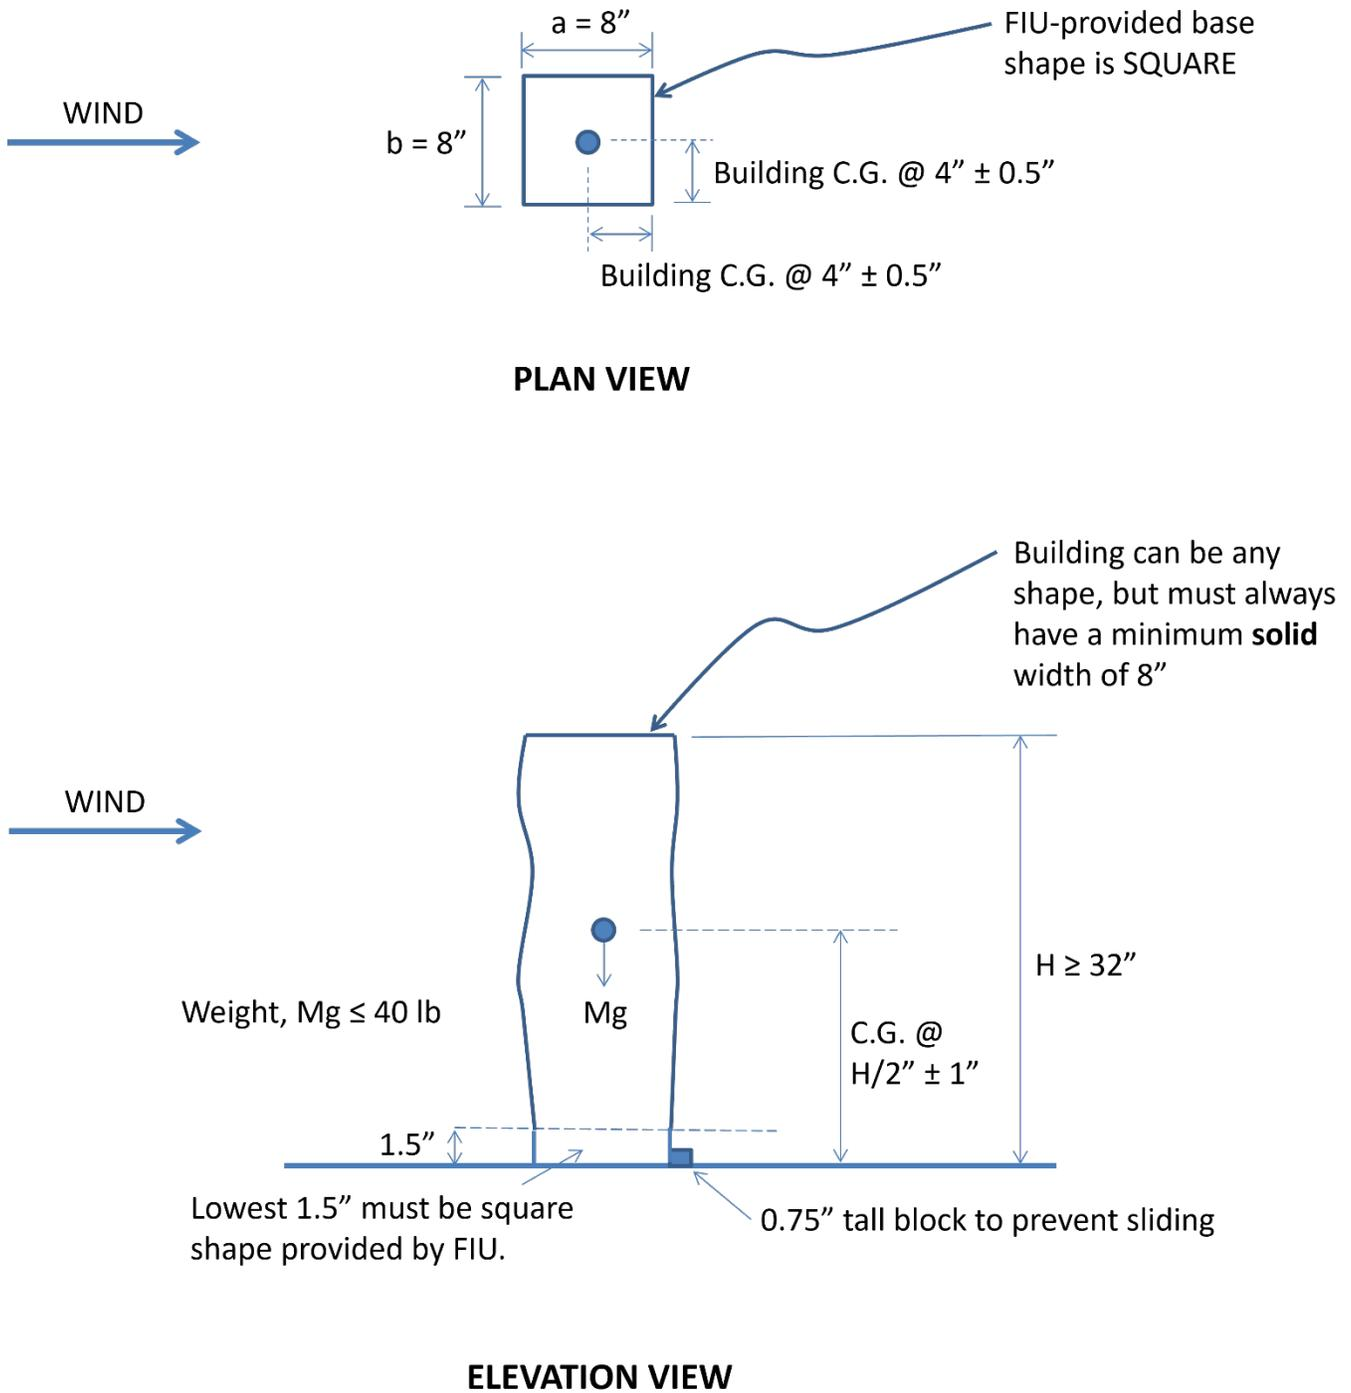

Figure 2: Schematic diagram of the building model, showing variable shape above the provided square base.
2.3: The building model will be a minimum of 32 inches high (i.e. total height), which includes a gold painted wooden base (8 inches x 8 inches x 1.5 inches) which will be provided for each team; see Figure 2.
- 2.4: Above the lowest 1.5 inches of the building model, which is the provided wooden base, and up to at least 30.5 inches above the base, the building model must have a minimum **solid** (i.e. not porous; no air can pass through) width of 8 inches, or wider; see Figure 2.
- 2.5: The weight of the building model must be no greater than 40 lbs., including the provided square base. The center of gravity must be directly above the center of the 8 inch square base (+/- 0.5 inches) and must be within +/- 1 inch of the mid-height of the model building, measured from the bottom of the provided base to the top of the highest element on the building model. See Figure 2.